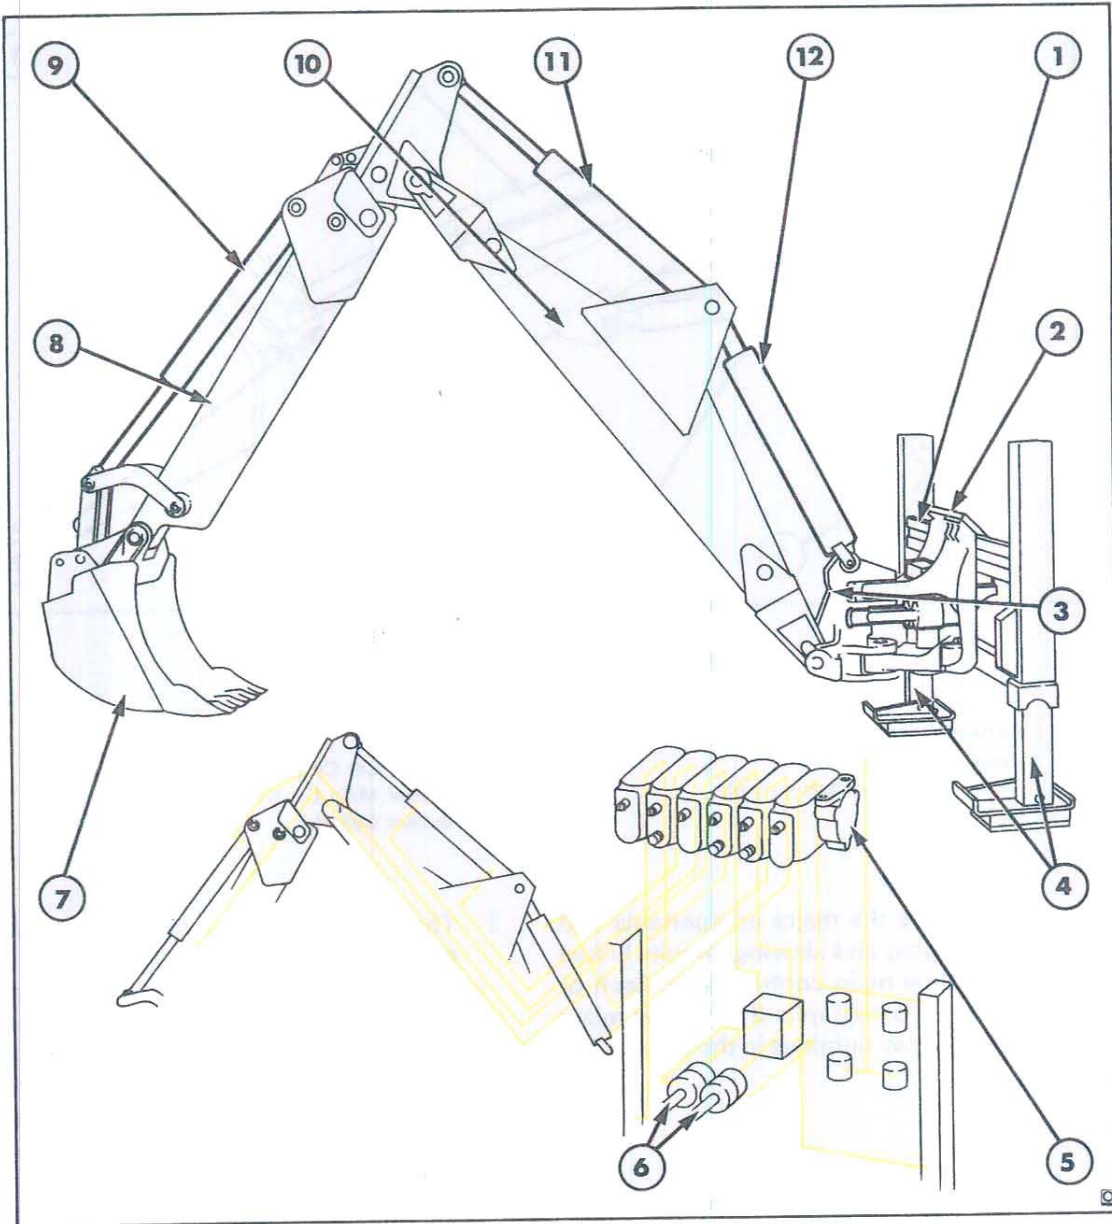

Figure 3
Figure 3 shows the major components and backhoe digging and slewing circuits linked to the backhoe main control valve. Each of the numbered paragraphs that follow relate directly to the key numbers in the illustration.
8. The dipstick pivots on the boom and allows the bucket to move within an area around the boom. A special extendible dipstick as shown in Figure 3, can be specified which telescopes, so altering the length of the dipstick.